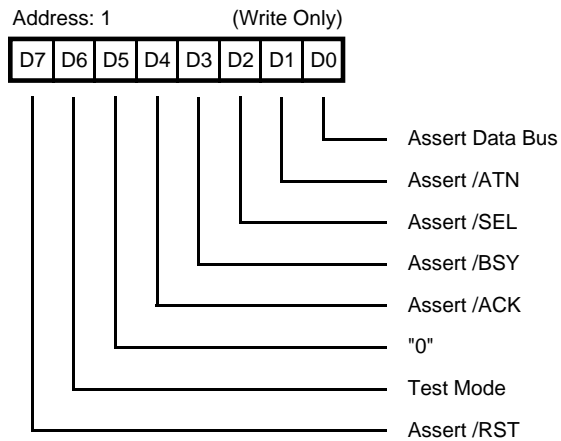

**Figure 7. Input Data Register**
**Input Data Register.** *Address 6 (Read Only).* The input Data Register (Figure 7) is a read-only register that is used to read latched data from the SCSI Bus. Data is latched either during a DMA Target receive operation when /ACK goes active or during a DMA Initiator receive when /REQ goes active. The DMA Mode bit (Mode Register bit 1) must be set before data can be latched in the Input Data Register. This register is read under DMA control using /RD and /DACK. Parity is optionally checked when the Input Data Register is loaded.